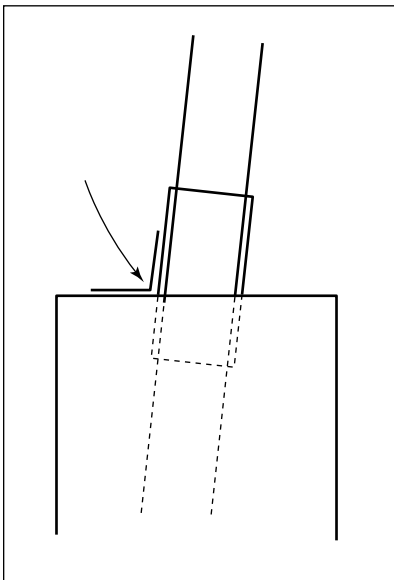

Figure 12-13:
8. Use a small flap of card to make a hinge that joins the slider tube to the top of the box (see Figure 12-13).